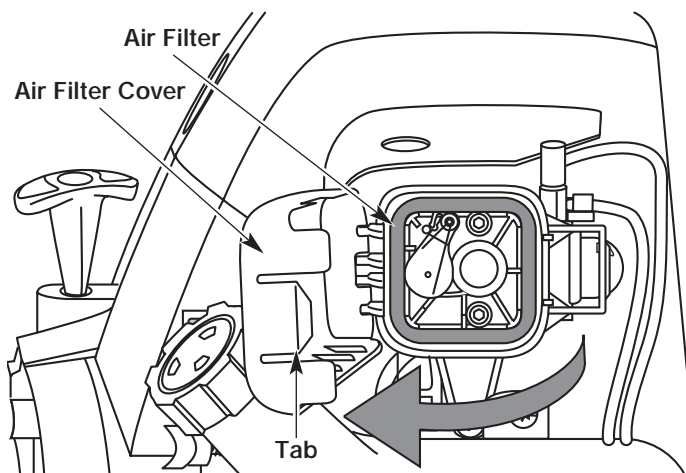

Figure 44
1. Open the air filter cover. Push the tab on the right side of the cover inward. Then pull the air filter cover out and to the left. See Figure 44.
2. Remove the air filter. See Figure 44.
8. Swing the cover to the right until the tab on the air filter cover snaps into place in the slot on the back plate. See Figure 44 and 48.